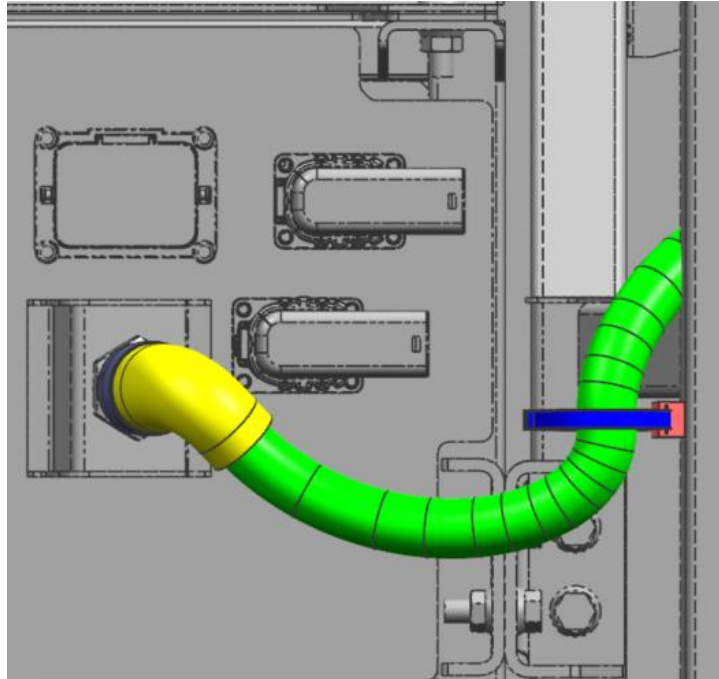

Figure 6 - Jumper Harness securement (View from Engine compartment)
2.7 Connect provided jumper harness 1088103 to EC-XBATxx. route harness through saddle tyrap and secure connectors to prevent wire strain as shown in figure 6&7.